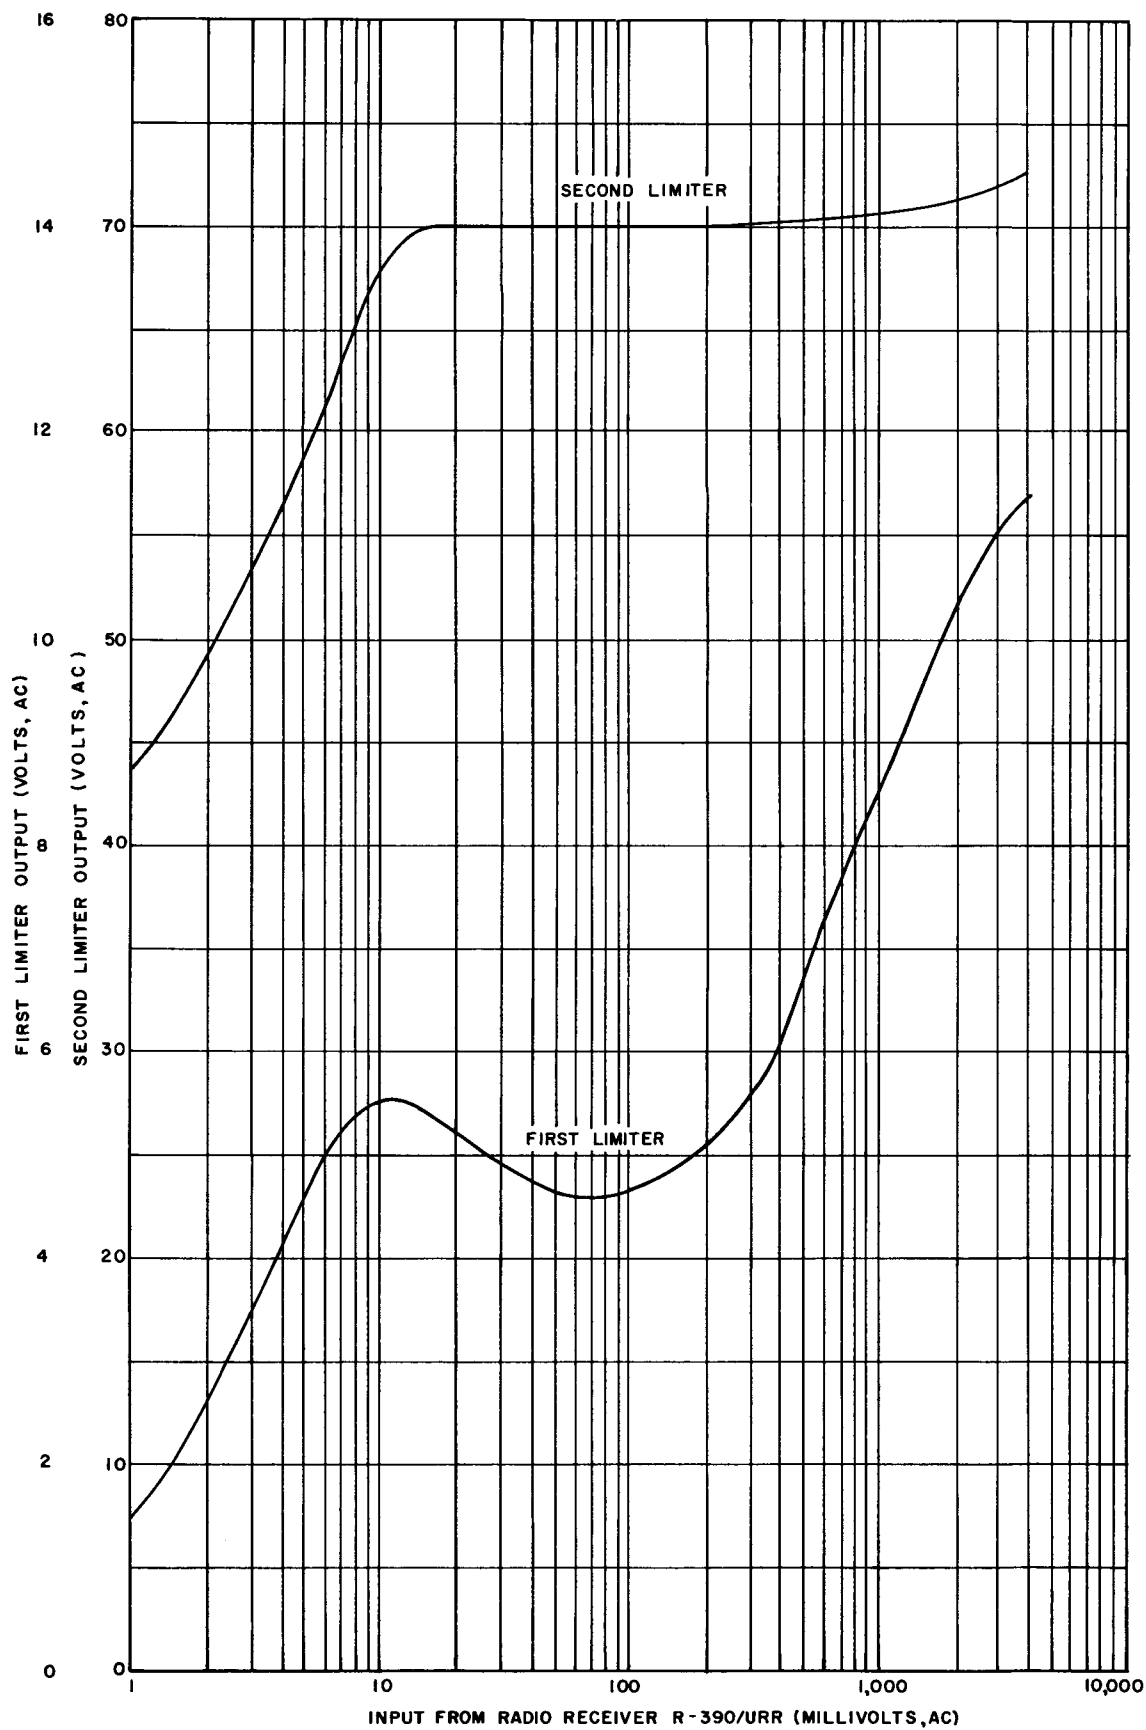

Figure 54. Limiter characteristics.
- (3) The cathode is ground potential and the suppressor grid (pin 2) is connected directly to the cathode (pin 7). With no cathode bias, tube saturation occurs on the positive peaks of the input signal. Plate voltage is from the +180 v regulated supply through the plate load resistor R310 to the plate (pin 5). This reduced plate voltage, from the recommended +250 v for the type 12AU6 tube, makes the grid cut-off voltage less negative and results in cut-off on the negative peaks of the input signal. The reduced plate voltage also reduces the plate current drawn during tube saturation. The screen grid voltage is from the voltage division circuit R308 and R307 across the +180 v regulated supply to the screen grid (pin 6). This voltage division results in a screen grid voltage of approximately +105 v which is a reduction from the recommended 150 v for the type 12AU6 tube. This reduction in screen grid voltage makes the grid cut-off voltage less negative and consequently assists in cut-off on the negative peaks of the input signal. The capacitor C310 is the screen grid bypass to ground.
- (4) The output signal from the first limiter is from the plate (pin 5) through the coupling capacitor C311 to the grid (pin 1) of the second limiter V303. The output from the first limiter is not constant over the input signal strength range of 50 db required for the operation of the equipment (fig. 54). The second limiter produces the required limiting range of 50 db.
the tuned circuit. The swamping resistor R311 shunts the tuned circuit to broaden the frequency response sufficiently to accept the if. signal when it is at its widest deviation from the mean frequency of 455 kc. The output signal from the tuned plate circuit of the second limiter is to the discriminator. With a 455 kc input between 12 mv and 1200 mv from the radio receiver to the radio frequency oscillator, the output from the second limiter is essentially constant at 70 v. Figure 54, is a graph of limiter characteristics showing limiter output vs signal input from Radio Receiver R-390/URR. The output of both the first and second limiters is shown in this figure.